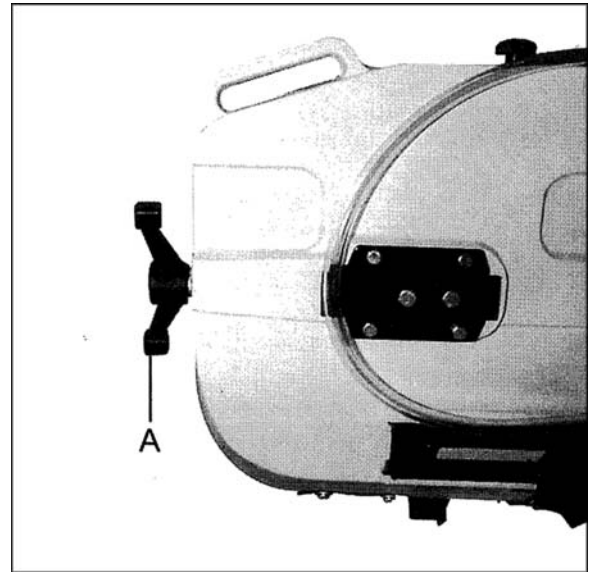

Figure 14
- Turn blade tension knob (A, Figure 14) one and three quarter to two revolutions clockwise. This equals approximately 23,000 lbs. of blade tension.